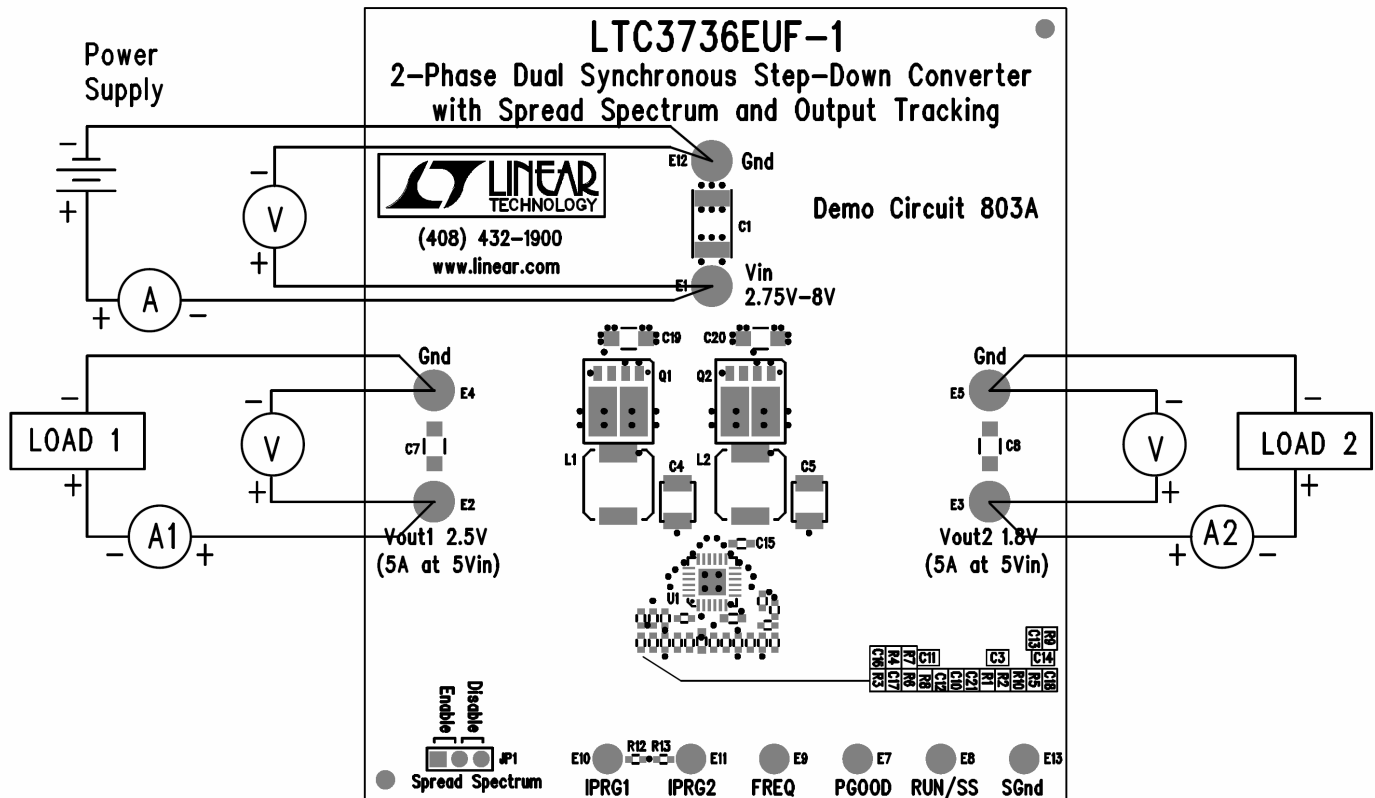

Figure 1. Proper Measurement Equipment Setup
Demonstration circuit 803 is easy to set up to evaluate the performance of LTC3736-1. Refer to Figure 1. for proper measurement equipment setup and follow the procedure below:
2. Connect the 2.5V load (Load 1 in Figure 1) between Vout1 and GND; connect the 1.8V load (Load 2 in
- Figure 1) between Vout2 and GND. (Initial loads: 0A)